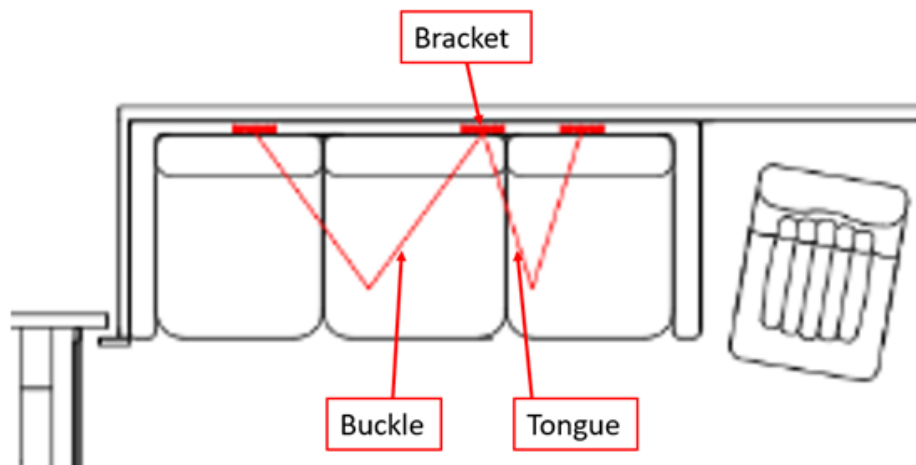

Figure 3
2. Determine which seat belts are installed incorrectly. There will be brackets that hold both a buckle and tongue, but are not the same seat belt. Make sure the buckle and tongue are the same seat belt before removing it. Figure 3 shows an example of a buckle and tongue on the same bracket that is installed correctly. This can be verified by the Seat Belt Recall drawings.